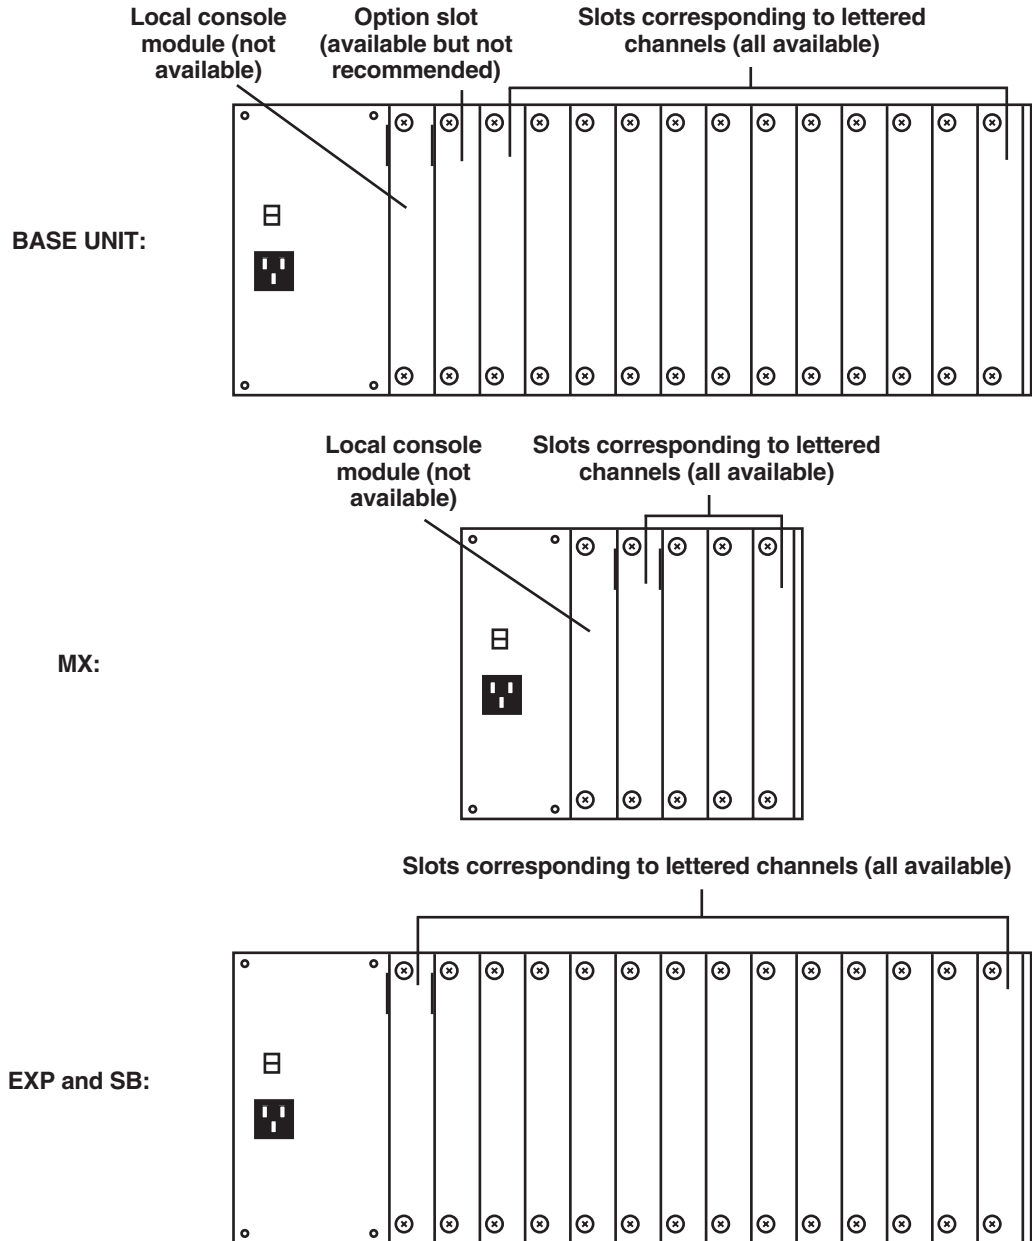

Figure 4-4. The ServSwitch Multi rear panels (as shipped from the factory).
1. Position the ServSwitch Multi so that its rear panel is facing you, as shown in Figure 4-4. Choose an available slot. In most cases, any slot that is covered with a blank (connectorless) panel will be available. However, note that on the Base Unit and MX, the local-console module on the far left end of the Switch's rear panel is covered by a blank panel but is not an available slot; no ServSwitch Multi Card of any type can be installed in that slot. Remember that the option slot (the slot just to the right of the local-console module, which has no corresponding front-panel LED or pushbutton) is an available slot but should not be used to host a CPU-Interface Card except in systems with one user and 13 computers.